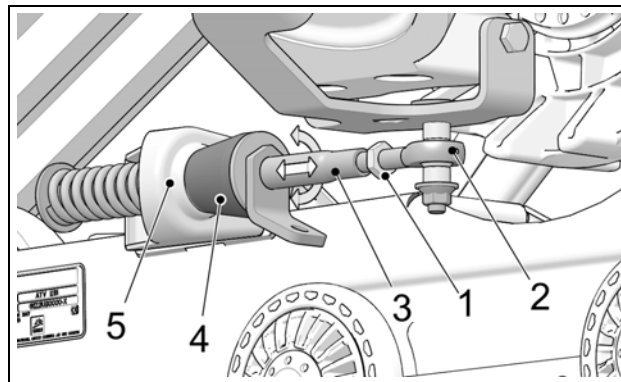

Figure 14
- Turn stabilizing arm nut to adjust length of rod end (1) and get rubber cone (2) to apply light pressure on anti-rotation retainer (3). Figure 14.